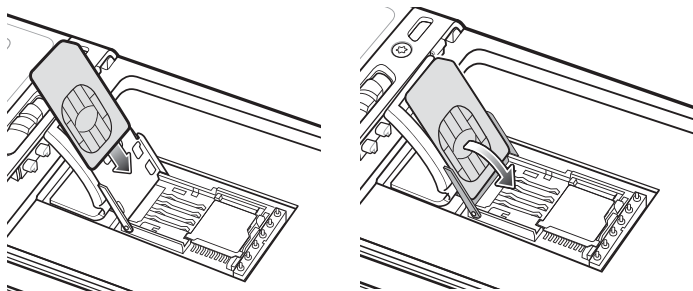

Figure 1-4 *Inserting the SIM Card*
4. Insert the SIM card, as shown in Figure 1-4 ensuring that the card slides into the holding tabs on each side of the door.